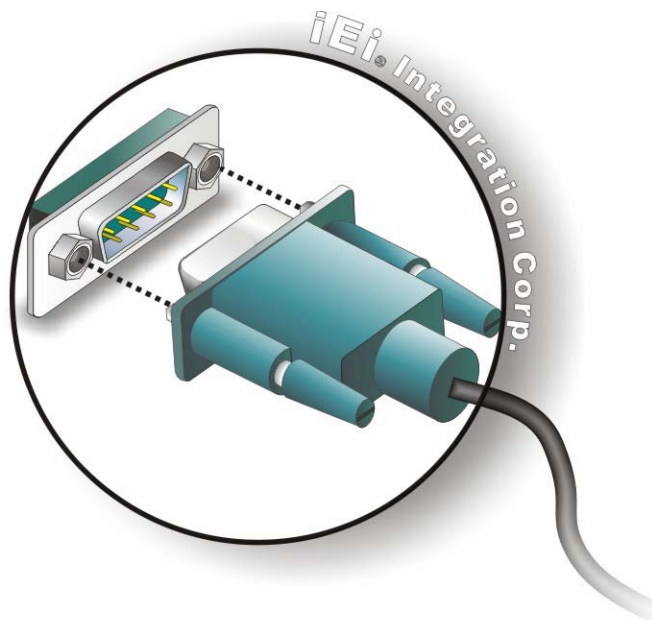

Figure 4-18: Serial Device Connector
Step 2: **Insert the serial connector.** Insert the D-sub 9 connector of a serial device into the D-sub 9 connector on the external peripheral interface. See **Figure 4-18**.